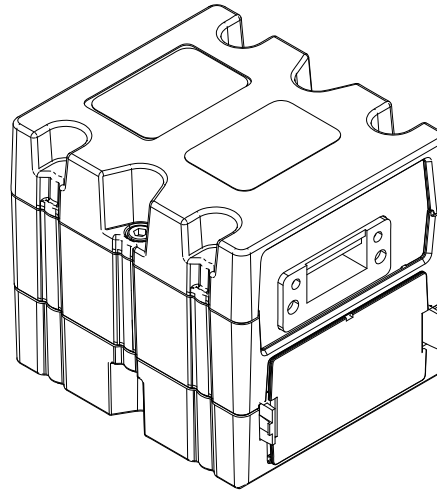

FIG. 52
6. If Used, connect the Ethernet, DeviceNet, or Profibus cable to the CGM as applicable. Connect the other end of the cable to the FieldBus device. See FIG. 52.